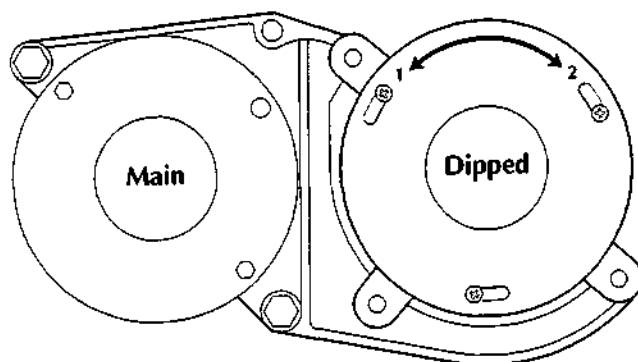

Figure 2. Dipped Beam Conversion UK-Europe
3. Slacken 3 screws securing the lamp backplate (Figure 2) and rotate the plate to the right for UK or to the left for Europe to the limit of the bolt slots.